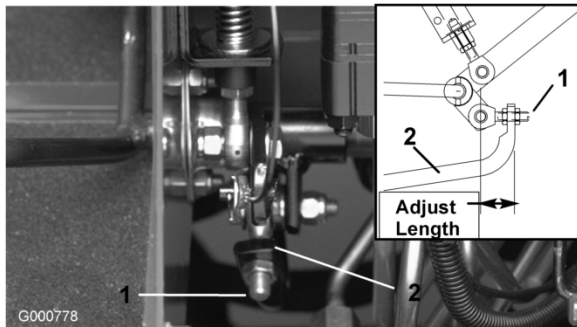

Figure 59
4. Adjust jam nuts on pump rod end to move pump control tube forward to eliminate forward creep or rearward to eliminate rearward creep (Figure 59).